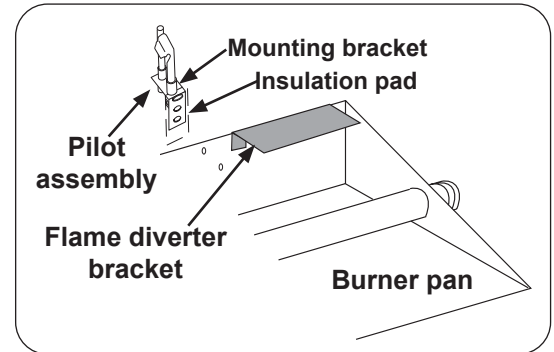

Fig. 5-2 Install pilot assembly
3. Place the insulating pad between the bracket and the pan. Insert the screws through the pilot bracket and the rear of the pan (see Fig. 5-2).